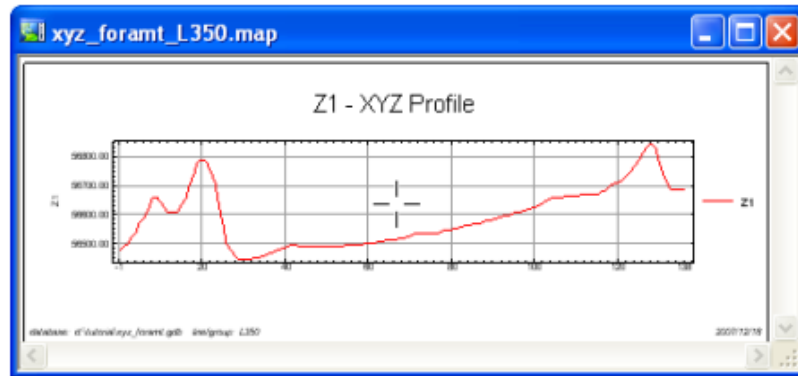

Figure 1.77. – XYZ profile window
3. Click the [OK] button and the profile plot map (**xyz_format_L350.map**) is displayed in your project, fig. 1.77.